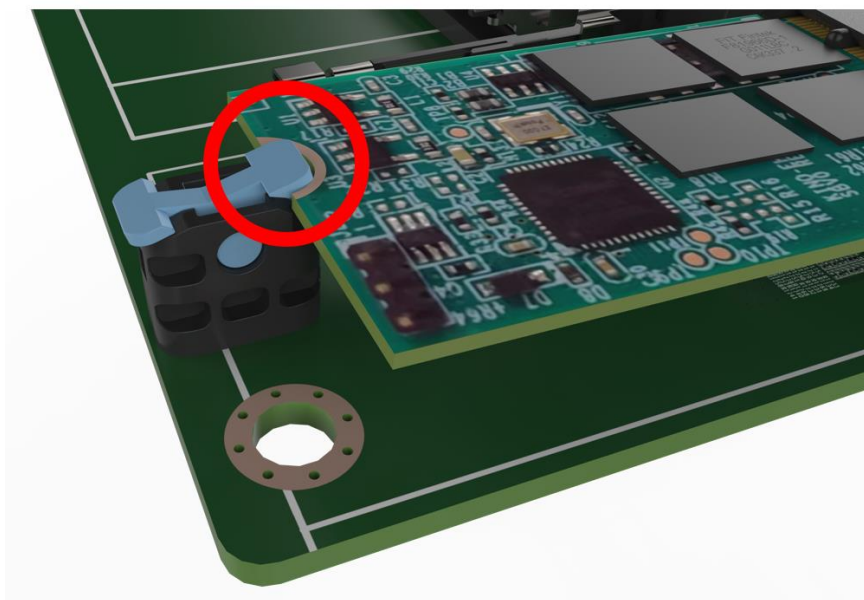

Figure 3-7: Insert M.2 Card
Step 4: Insert M.2 card. The notch at the end of the M.2 card needs to be aligned with the notch of the fixed buckle (Figure 3-7).